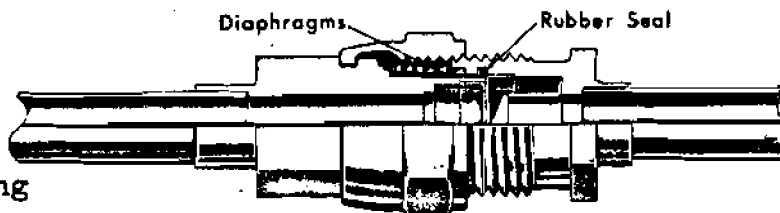

Figure 2
3. Connect refrigerant cylinder through charging manifold to both gauge ports leaving connections at gauge ports loose. Purge each hose and tighten connections. Crack both service valves. 3/4 turn CW. Fig 2 (B)